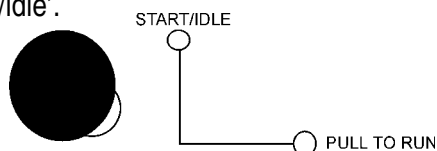

Figure 39. Engine Throttle Lever (low)
6. Make sure the engine throttle (Figure 39) is in 'start/idle'.